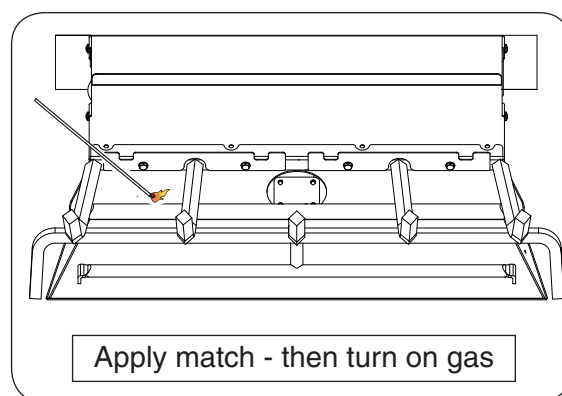

Fig. 11-1
3. Lay a lighted match on the center of the top burner (**do not hold the match in your hand**) or use a lighted long-stem match/long-necked butane lighter (Fig. 11-1).